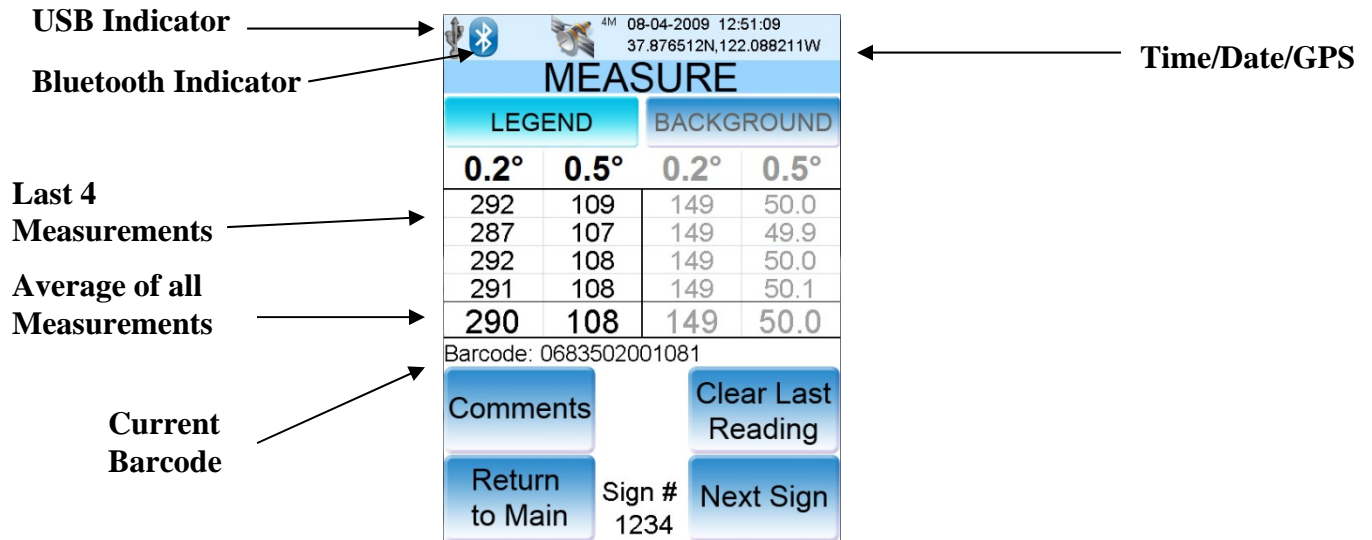

Figure 3-5 Measure Screen
3. Press the trigger to perform a measurement. The last value will be shown in the small window to the right of the running average (see Figure 3-5 *Measure Screen*). The user may take as many as 20 measurements for both the legend and the background. The 922 will continually use all of the available data for the average.
3. The scanned barcode value will then be displayed on the measurement screen. (See Figure 3-5 *Measure Screen*)